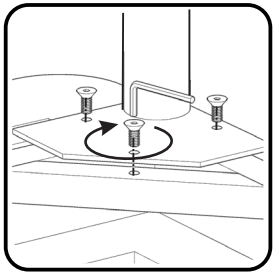

Figure 1
Attach Legs (B) and (C) to Top (A) with Tapered Head Bolts, tightening the bolts only half way. (See Figure 1)